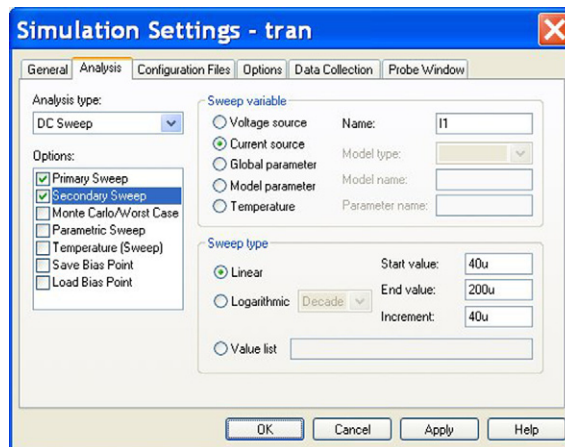

FIGURE 3.24
6. In the **Options** box, select the **Secondary Sweep**. The **Sweep variable** is the current source I1. The **Sweep type** is **Linear** with a **Start value** of $40\ \mu\text{A}$, an **End value** of $200\ \mu\text{A}$ and an **Increment** of $40\ \mu\text{A}$. Make sure the **Secondary Sweep** box is checked and click on **OK** (Figure 3.24).